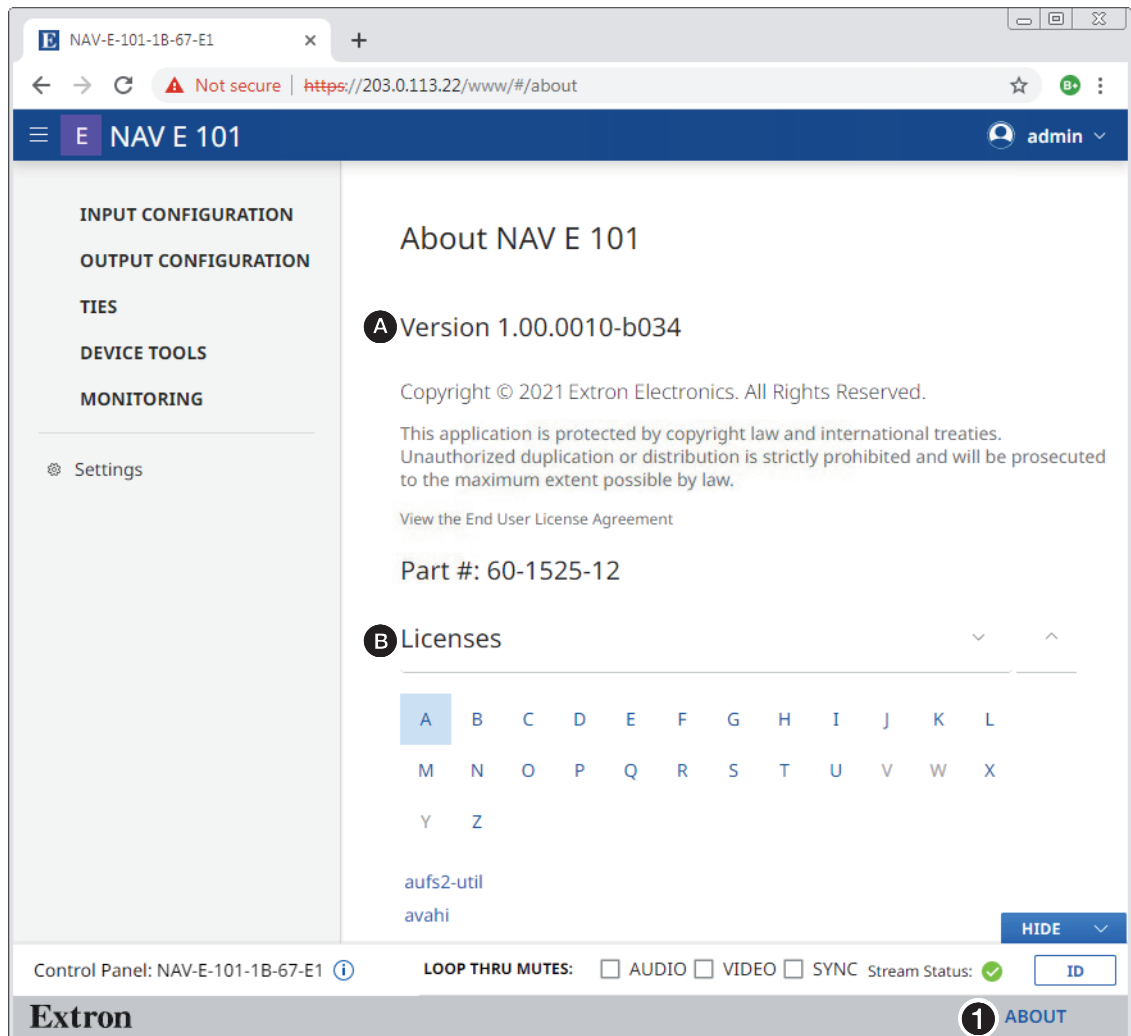

Figure 62. About Pane
Access the **About** page by clicking **About** (see figure 62, ❶).